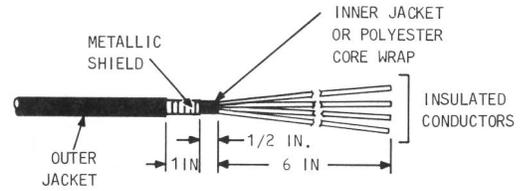

Fig. 13—♦Prepared Service Wire—B Cable Closure♦
5.02 Prepare the service wire as illustrated in Fig. 13.